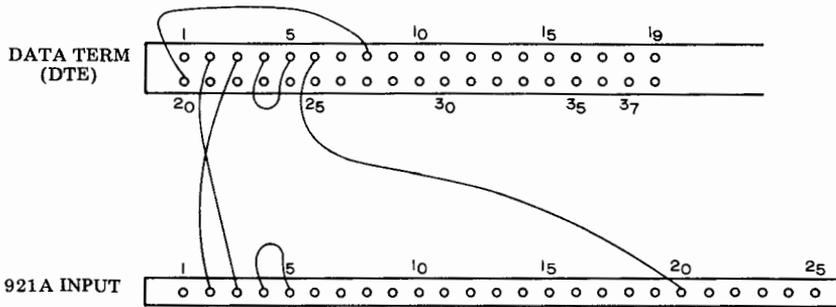

Fig. 11—921A Jumper Connections
3.11 Make the following connections on the 921A Data Term (DTE) connector as shown in Fig. 11.